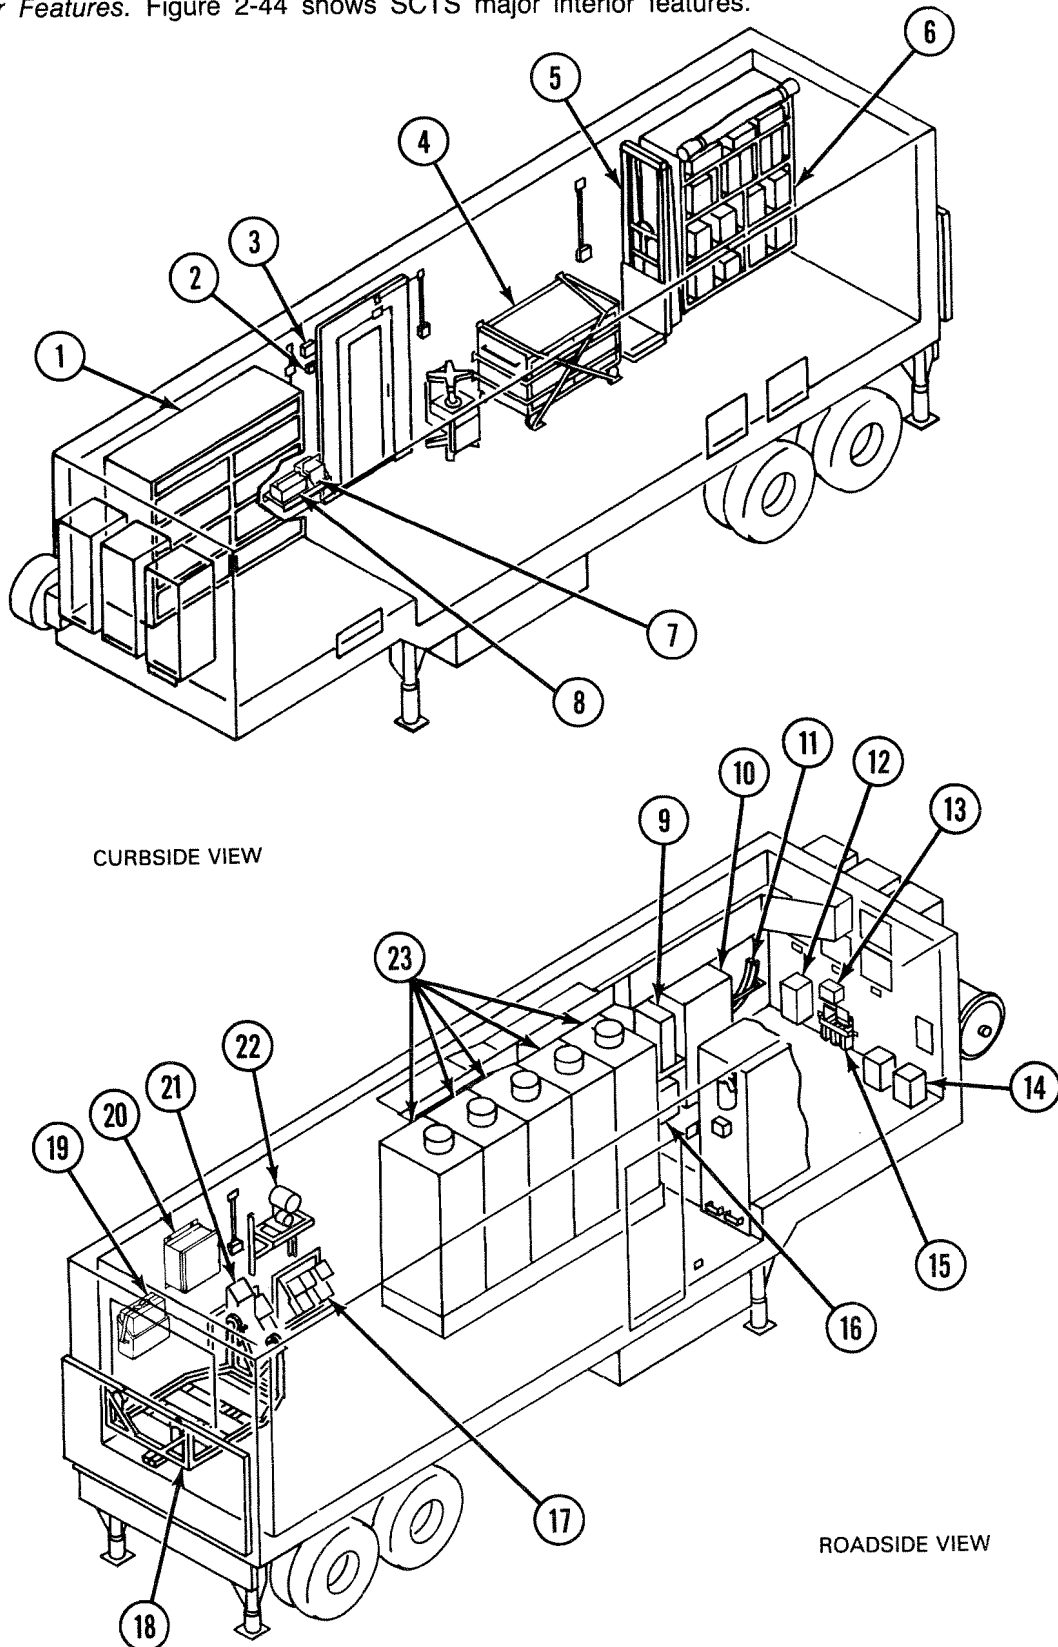

Figure 2-44. SCTS Major Interior Features
b. Interior Features. Figure 2-44 shows SCTS major interior features.